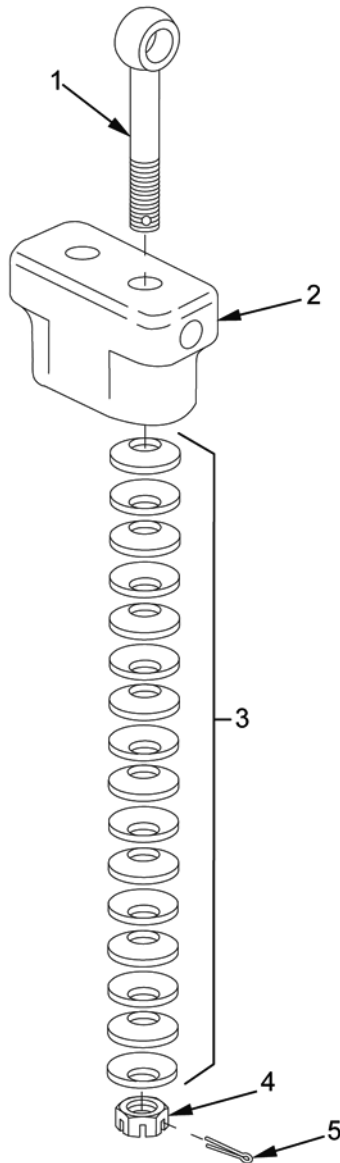

Figure 4. Disassembly of Spring Washer Assembly.
8. Remove two cotter pins (Figure 4, Item 5). Remove two slotted nuts (Figure 4, Item 4), two eyebolts (Figure 4, Item 1), and two spring tension washer sets (Figure 4, Item 3) from belleville housing (Figure 4, Item 2). Discard cotter pins.